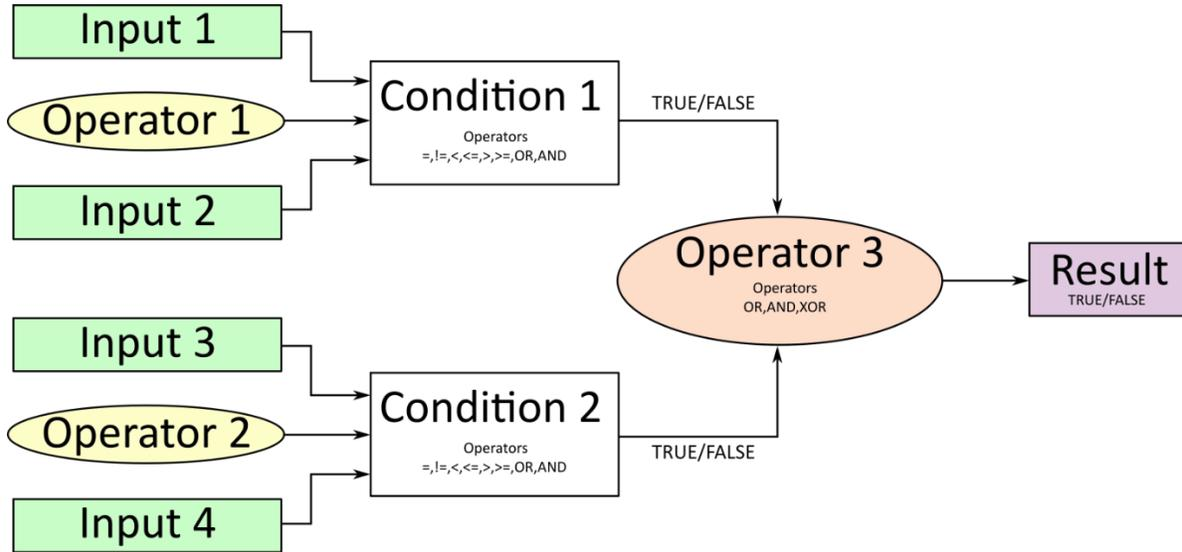

Figure 21 – Conditional Block Diagram
The Conditional Block compares up to four different input sources with different logical or relational operators. The result of each block can therefore only be **true** (1) or **false** (0). **Figure 21** demonstrates the connections between all parameters.